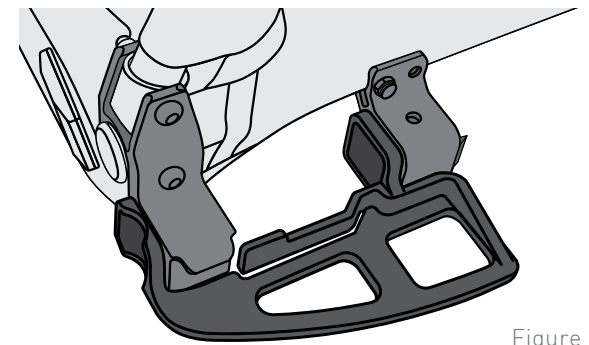

Figure 8
2. Slide the wheel guard into the tow bar receiver until it snaps into place (Figure 8). Lightly bend front tabs inward when inserting.